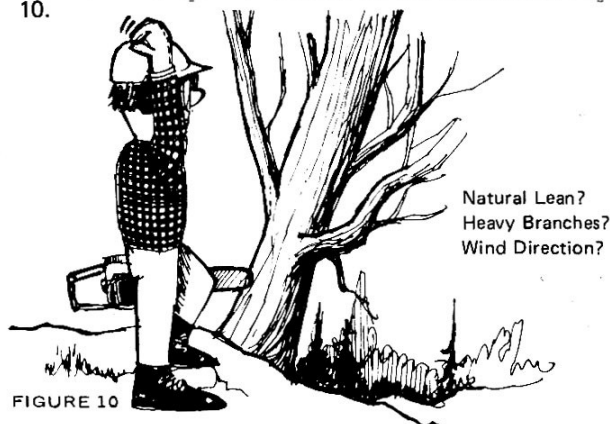

FIGURE 10
22. Before felling a tree consider, (A) the natural lean of the tree (B) the location of the heavier branches (C) the wind direction, then judge the direction the tree will fall. See Figure 10.